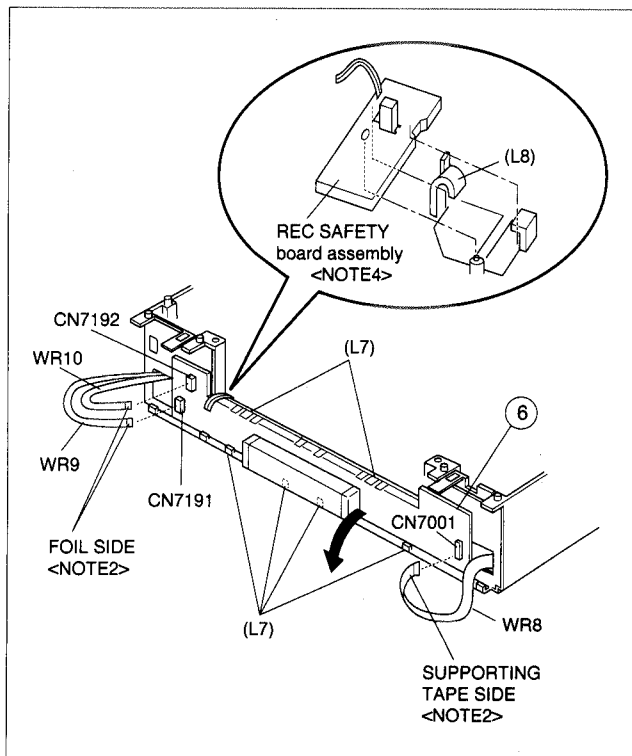

Fig. D6-1 [HR-S9600EU]
- (7) Remove the Switch/Display board assembly and REC safety board assembly. (Refer to page 1-4 of 1.3 DISASSEMBLY/ASSEMBLY METHOD. Take care not to pull the flat wires (Fig. D6-1) from CN7001, CN7191 and CN7192.)